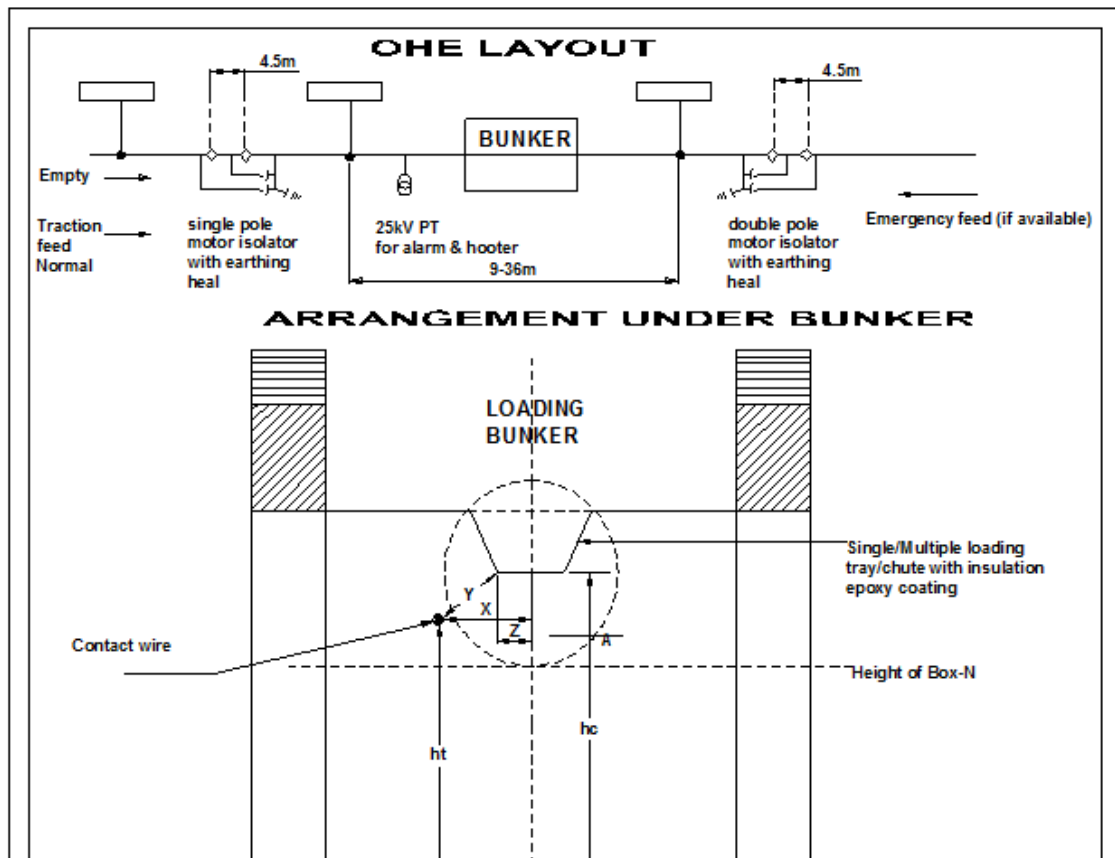
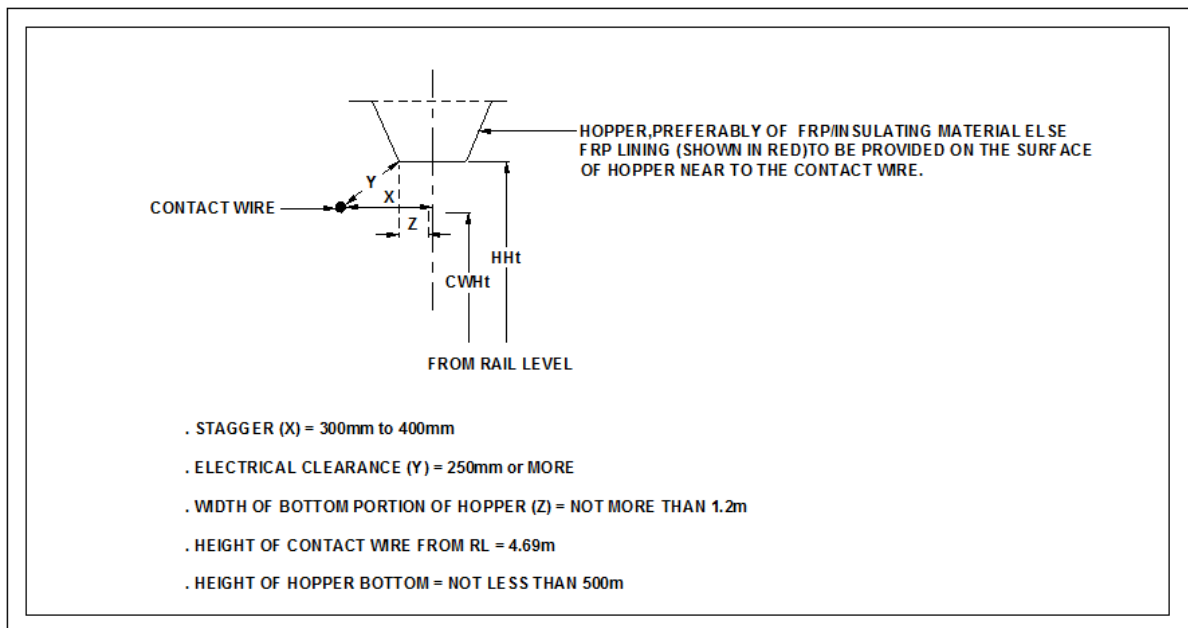

Fig 2.0 OHE layout for loading siding & arrangement under the loading area
Fig 3.0 Details of critical dimensions of OHE arrangement under bunker
4.4 **Electrical equipments:** OHE layout in loading area is shown in Fig 2.0(Sketch No. TI/SK/OHE/CHUTE/RDSO/00002/09/0) minute details of OHE under loading area are shown in Fig 3.0.( Sketch No. TI/SK/OHE/HOPPER/RDSO/00001/09/0) Following electrical equipments shall be used:
**5.2 Layout of siding:** Tentative layout to be adopted for such a siding shall be as shown in the drawing given in Fig 2.0 below.
**5.3 Electrical equipments:** As shown in the layout of the scheme in Fig 2.0 , following equipments shall be required in the vicinity of the loading area: